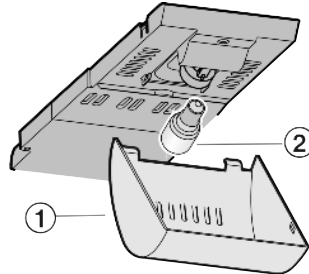

Fig. 15
- ▶ Take holder of the cover Fig. 15 (1) at the front and unhook it at the back.
- ▶ Change the bulb Fig. 15 (2).
- ▶ Put the cover Fig. 15 (1) back in place.